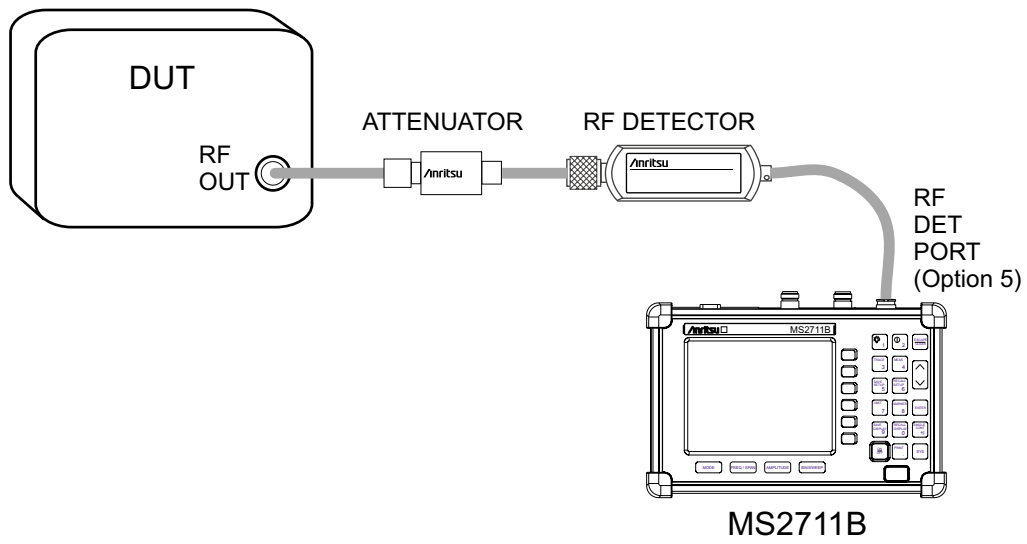

Figure 5-10. Power Monitor Measurement Setup
- Step 1.** Insert an attenuator between the DUT and the RF detector, sufficient to insure that the input power to the MS2711B is no greater than +20 dBm. Refer to Figure 5-10.